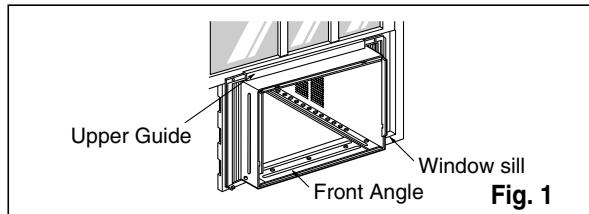

Fig. 1
1. Open the window. Mark a line on center of the window sill (or desired air conditioner location). Carefully place the cabinet on the window sill and align the center mark on the bottom front with the center line marked in the window sill. (See Fig. 1)